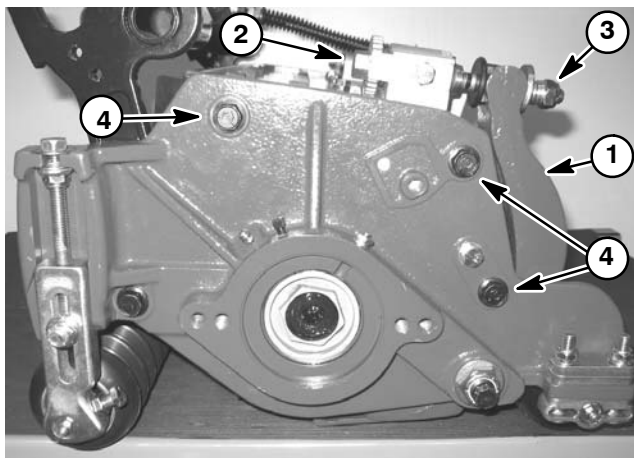

Figure 18
4. Loosen, but do not remove, the three (3) shoulder bolts that secure the side plate to the frame opposite the side that is not level (Fig. 18).